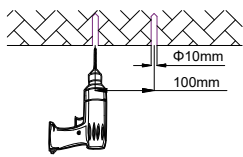

Fig 3
1. Mark with a marker pen or sharpie tool on the mounting surface and drill (Fig 3)